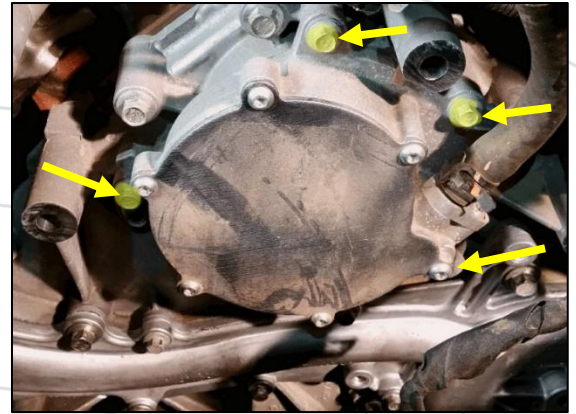

Figure 18: Vacuum Pump Bolt Locations
29. Disconnect the vacuum line & remove the four 8mm bolts securing the vacuum pump (Figure 18).
- b. Torque to **89 lb-in** (Figure 18).